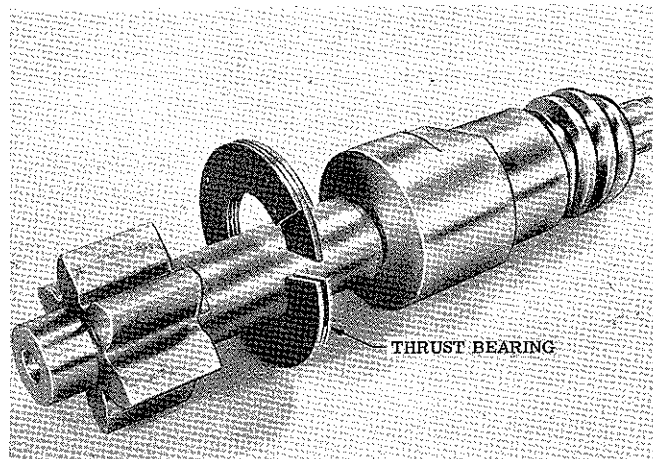

Figure 6-10. Pinion Shaft and Two-Piece Thrust Bearing
c. Load gearing can now be removed. First lift out chain sprocket with integral gear. Then remove pinion shaft and pinion thrust bearing. The bearing will come out with the shaft and is of special two-piece design for removal from shaft. See Figure 6-10. Separate bearing halves and remove from shaft.